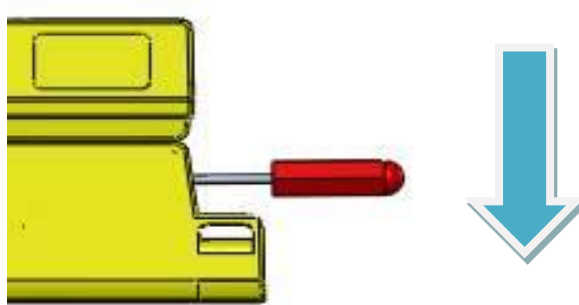

Figure 18
2. Insert a small screwdriver in the hole at the end of the guide rail moulding and lever up the clip holding the electronics assembly by pressing down on the screwdriver as shown in figure 18.